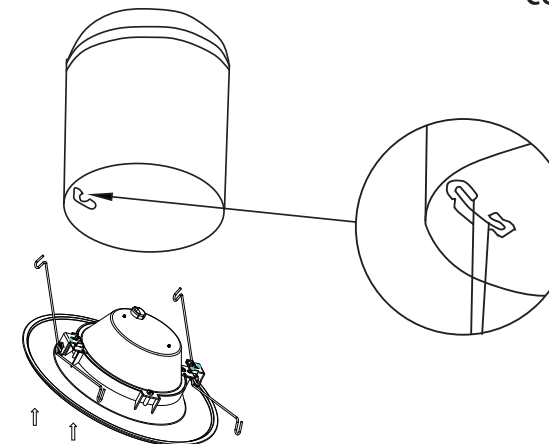

Figure 3
- STEP5:** Squeeze the torsion springs together and install into torsion spring brackets inside the housing as shown. (Figure 3)